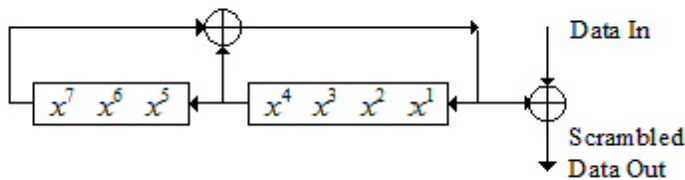

Fig.1 Data scrambler
2. The DATA field, composed of SERVICE, PSDU, tail, and pad parts, is scrambled with a length-127 frame-synchronous scrambler. The frame synchronous scrambler uses the generator polynomia  $S(x)$  as follows, and is illustrated in Fig. 1.